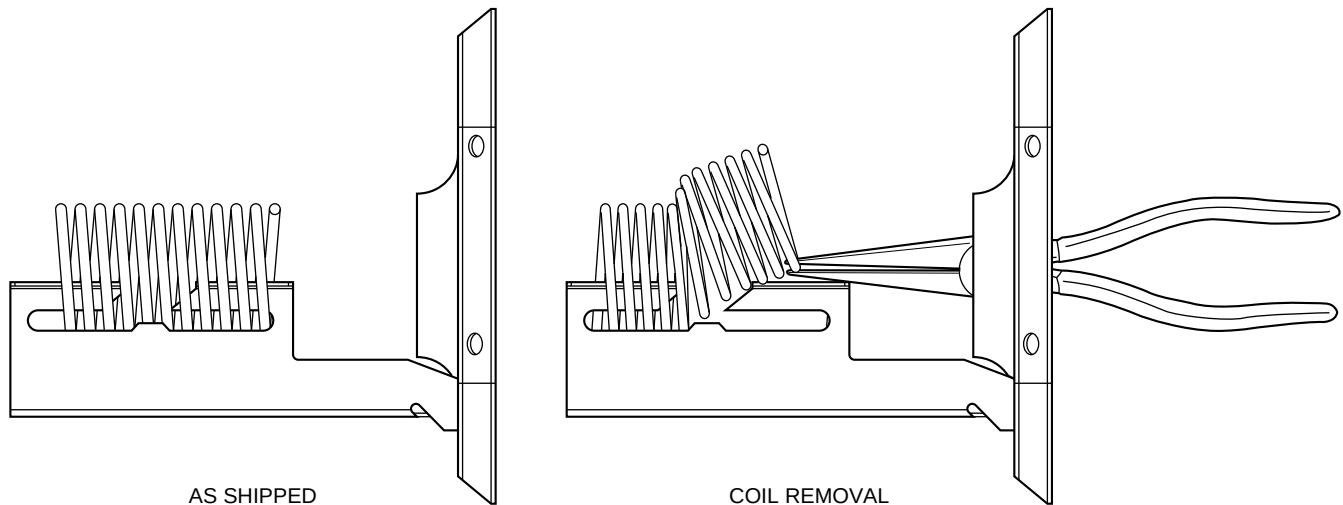

Fig. 7—Removal Of Low NO_x Coil
3. Using needle nose pliers, remove coil from bracket on each heat exchanger cell inlet plate. (See Fig. 7.)
6. Proceed to item 9 of SECTION 1, PROCEDURE 2.